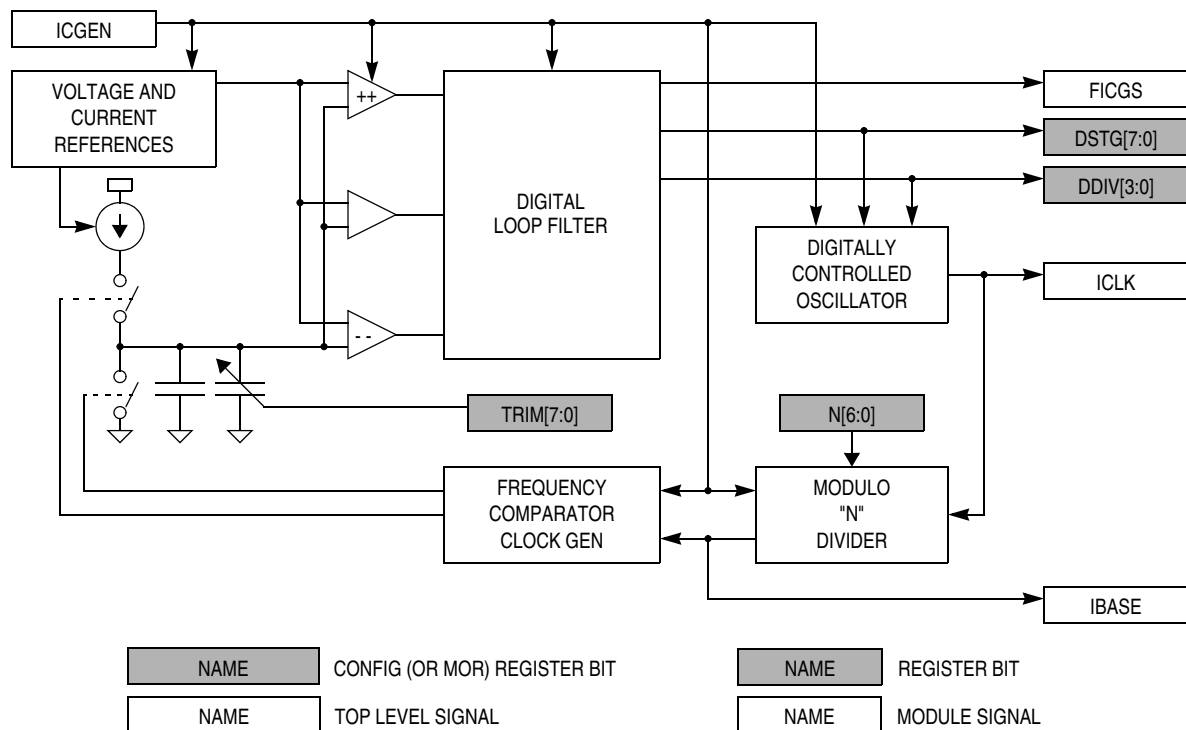

Figure 7-2. Internal Clock Generator Block Diagram
The ICG, shown in Figure 7-2, creates a low frequency base clock (IBASE), which operates at a nominal frequency (f_{NOM}) of 307.2 kHz $\pm$ 25%, and an internal clock (ICLK) which is an integer multiple of IBASE. This multiple is the ICG multiplier factor (N), which is programmed in the ICG multiplier register (ICGMR). The ICG is turned off and the output clocks (IBASE and ICLK) are held low when the ICG enable signal (ICGEN) is clear.